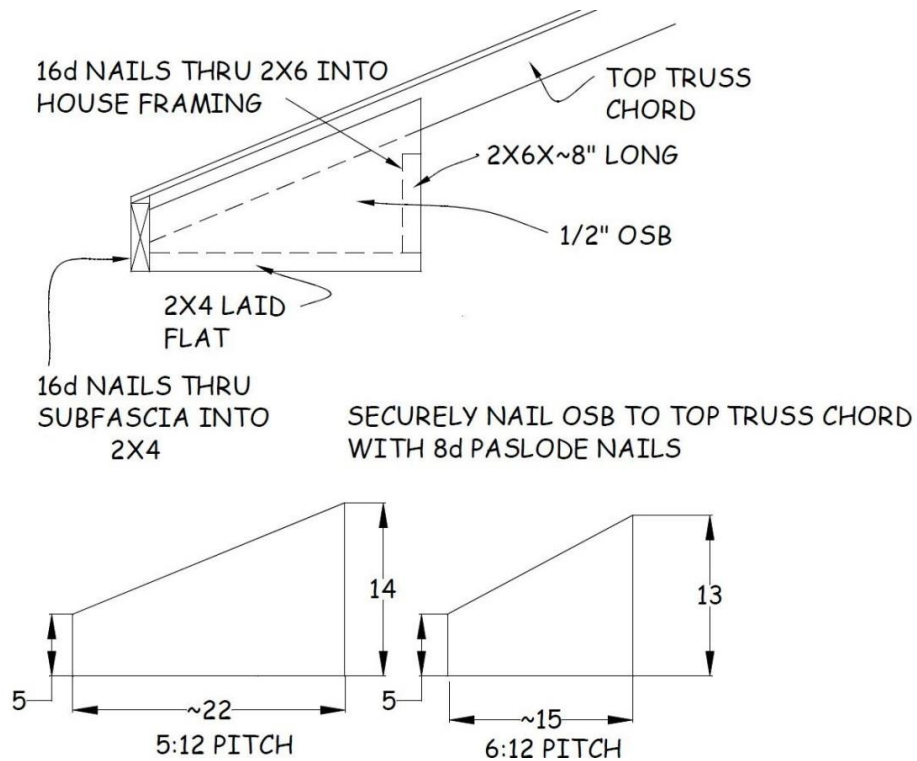

Figure 11-1. Gable Corner.
2. Gable corners are built using one layer of ½” OSB (see Figure 11-1). For 5:12 pitch roofs (most common) take some scrap OSB, at least 14” wide, and as long as the measurement determined in Step 1 above (e.g. 22” length). From the nominal 22” length side, measure up from one edge of the OSB 14” and make a mark. Measure up the other edge 5” and make a mark. Draw a line to connect these two marks and cut along the line.
7. Nail the OSB to the 2x4 and the 2x6 with six 2 3/8" collated nails, using either factory edges or a framing square to keep the frame pieces square to each other (see Figure 11-1).